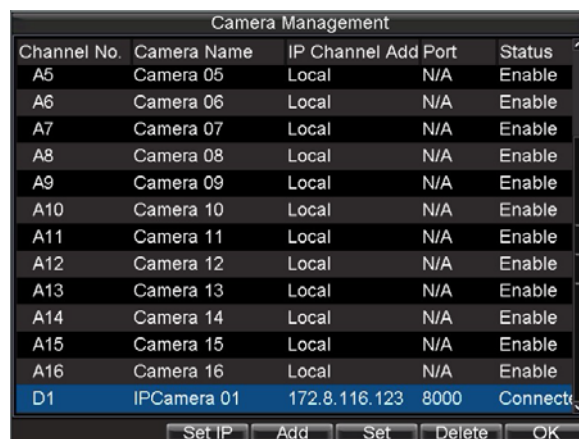

Figure 4. Camera Management Menu
8. If IP camera was added successfully, the **Status** for that camera would show that it is *Connected* (Figure 4). If it does not, click the Set button to verify that the parameters were entered correctly. You may also delete an added channel by clicking the Delete button.